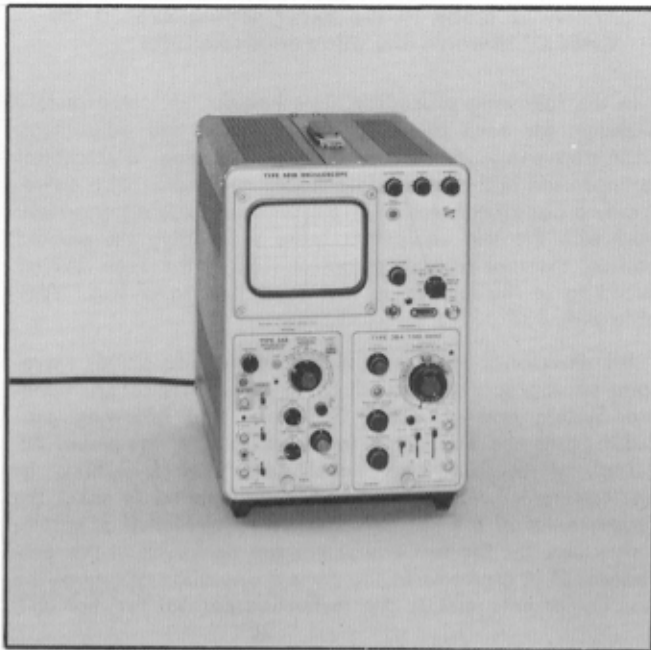

Fig. 5-1. Equipment required for steps 1 through 3.
- a. Test equipment is shown in Fig. 5-1.